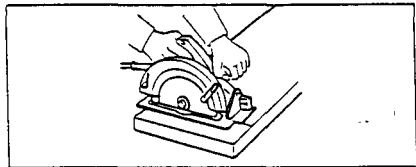
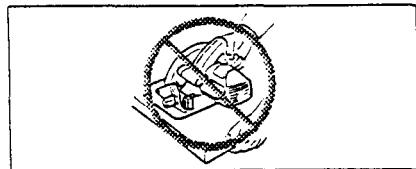

Fig. 5
Fig. 6
25. Place the wider portion of the saw base on that part of the workpiece which is solidly supported, not on the section that will fall off when the cut is made. As examples, Fig.5 illustrates the RIGHT way to cut off the end of a board, and Fig. 6 the WRONG way, If the workpiece is short or small, clamp it down. **DON'T TRY TO HOLD SHORT PLACES BY HAND!**